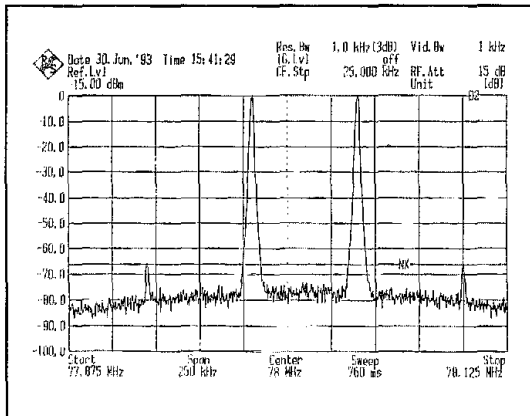

Figure 11—Result of a two-tone mixer test with 5-dBm tones at the mixer input. The two smaller pips are third-order IMD products.
The area of mixers, specifically switching mixers, has already received ample coverage. Figure 11 shows the result of a two-tone test of a mixer with 5-dBm tones applied to the mixer input. Figure 12 shows the results of a three-tone test using the same tone levels. To protect the spectrum ana-
Figure 12—Result of a three-tone mixer test with 5-dBm tones at the mixer input. Additional third-order IMD products have appeared, along with the two-tone products shown in Figure 11.
- 6U. Rohde, "Recent Advances in Modern Short-wave Receiver Design," *Part 1, QST*, Nov 1992, pp 45-55, Fig 11.
- 12Experimenters have used the gate-clamping diode in JFET oscillators because (1) it disallows gate-junction conduction and greatly reduces the frequency drift that can indirectly result and (2) it is more experimenter-friendly than using a source bias resistor to accomplish the same thing because wide FET-to-FET characteristics variation may make some copies of a given oscillator circuit fail to start if a particular source resistor value is specified. Two experiments at WJ1Z in converting existing gate-clamped JFET oscillators to source bias suggest, however, that a source resistance of 1 k $\Omega$  is a good initial value. (Hint: Good parts generally give better results, so also consider using a narrower-tolerance FET than the ubiquitous and mediocre MPF102 or 2N3819—a 2N4416, J310 or U310, for example.) The WJ1Z oscillators converted in this way (1) exhibited higher output than they did when gate-clamped and (2) were just as frequency stable with source bias as they were when gate-clamped.—Ed.